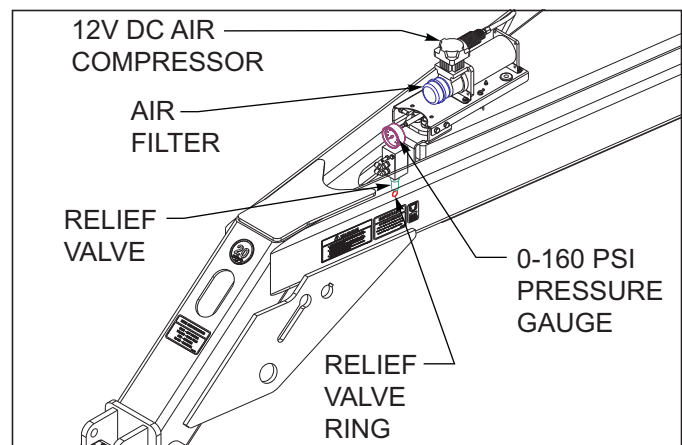

Figure 4-7: Air System Pressure
1. The air system pressure on the Grain Drill can safely operate in a range from 15 psi to 100 psi. A system pressure gauge is located at the front of the hitch *See Figure 4-7* and is used to monitor system pressure. It is normal for the system air pressure to vary while working in the field. As the openers raise and lower over ground conditions, so will the system pressure vary.